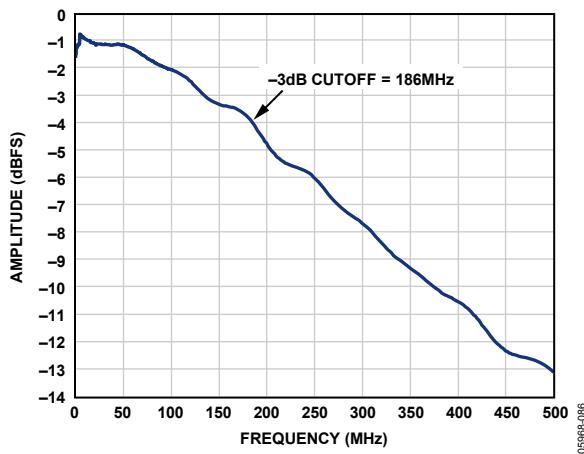

Figure 75. Evaluation Board Full Power Bandwidth
- AIN: The evaluation board is set up for a transformer-coupled analog input with optimum 50 Ω impedance matching out to 150 MHz (see Figure 75). For more bandwidth response, the differential capacitor across the analog inputs can be changed or removed. The common mode of the analog inputs is developed from the center tap of the transformer or AVDD_DUT/2.